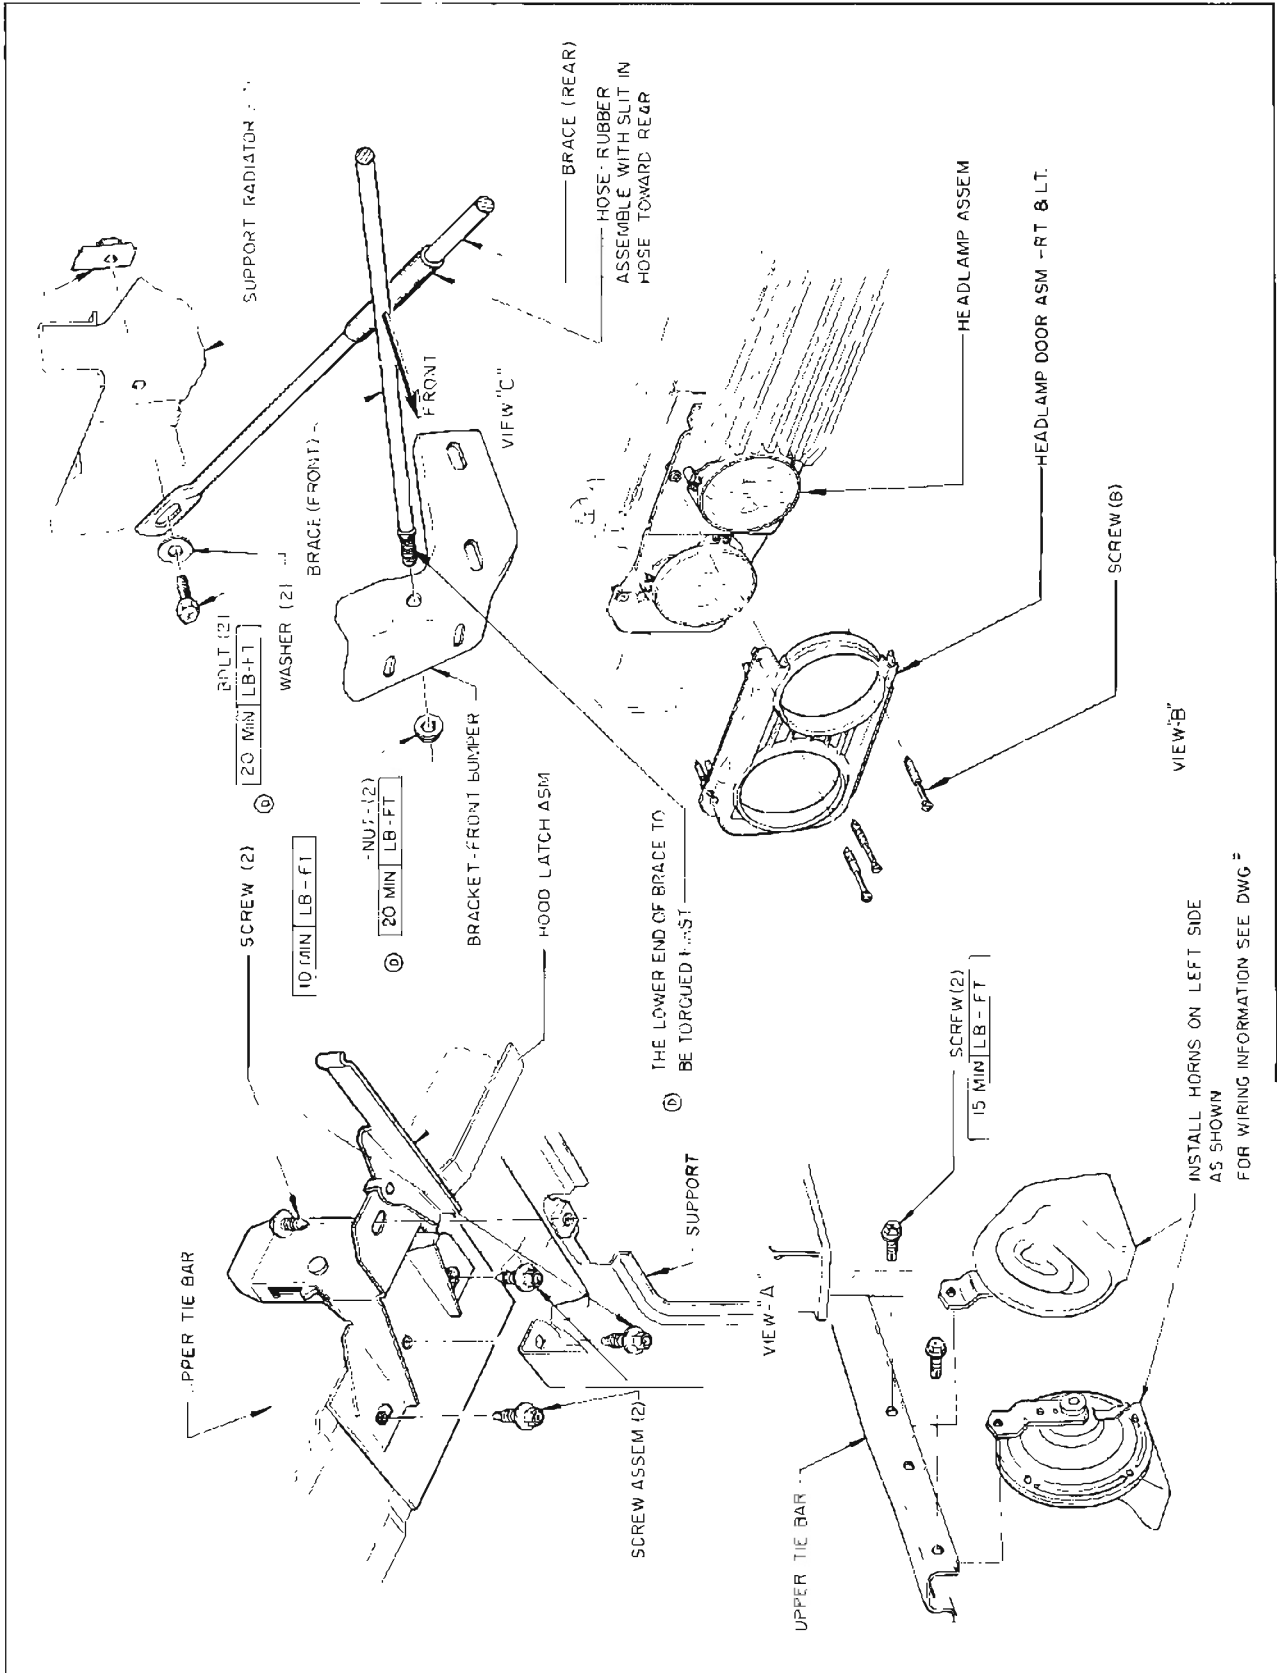

Figure 12-11—Radiator, Grille, Headlamp and Hood Latch Installation
b. Loosen four bolts attaching latch to panel assembly. (See Figures 12-11 and 12-12).